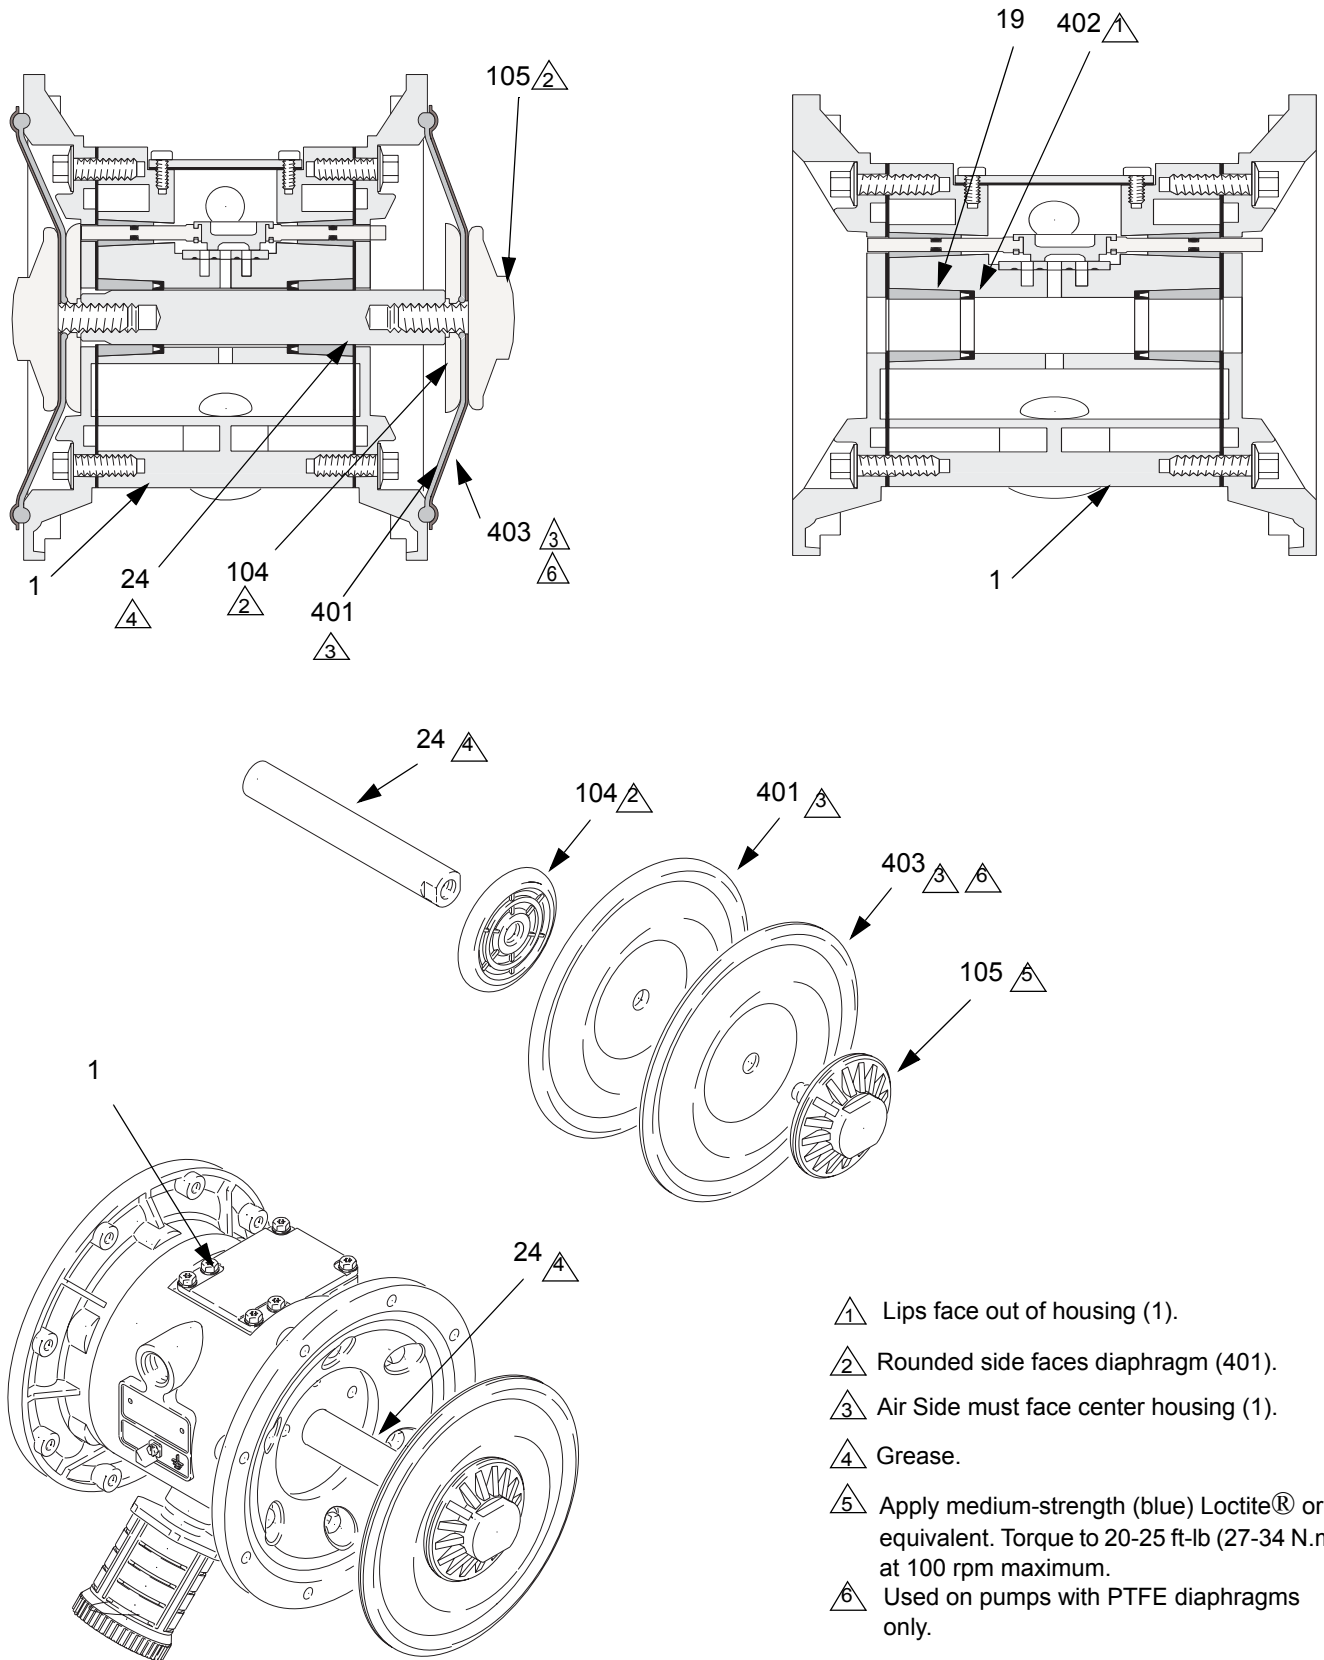

FIG. 6
2. Unscrew one outer plate (105) from diaphragm shaft (24), diaphragm (401), and air side diaphragm plate (104). See FIG. 6.
3. Pull the other diaphragm assembly and the diaphragm shaft (24) out of the center housing (1). Hold the shaft flats with an open end wrench, and remove the other outer plate (105) from the shaft. Disassemble the remaining diaphragm assembly.
1. Inspect the wrench flats on the shaft (24) for burrs that could damage the air motor seals (402). Use a file to remove any burrs.
2. Grease the length and ends of diaphragm shaft (24), and slide it through the new Stainless Steel Plus housing (1).
3. Assemble the inner diaphragm plates (104), diaphragms (401), PTFE diaphragms (403, if present), and outer diaphragm plates (105) exactly as shown in Fig. 6. These parts **must** be assembled correctly.
4. Apply medium-strength (blue Loctite or equivalent to the threads of the fluid-side plate (105). Hold one of the outer plates (105) with a wrench, and torque the other outer plate to 20-25 ft-lb (27-34 N.m.) at 100 rpm maximum. **Do not over-torque.**
5. Align the fluid covers (101) and the center housing (1) so the arrows (A) on the covers face the same direction as the air valve (B). Apply